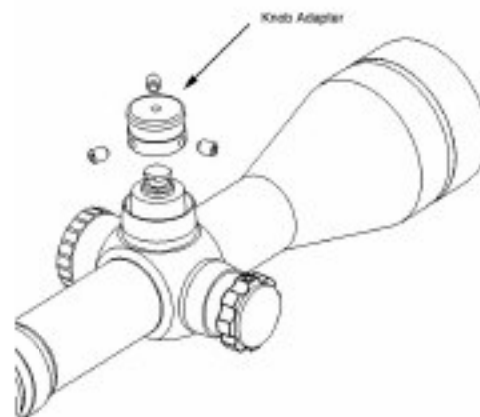

Figure 2-6
7. Place the BORS knob adapter over the elevation post. Apply a slight downward pressure and tighten the three equally spaced set screws located on the outside of the adapter. Ensure that all set screws are seated below the outside diameter of the knob adapter and are tightened evenly. Use Loctite® if desired. Figure 2-6.